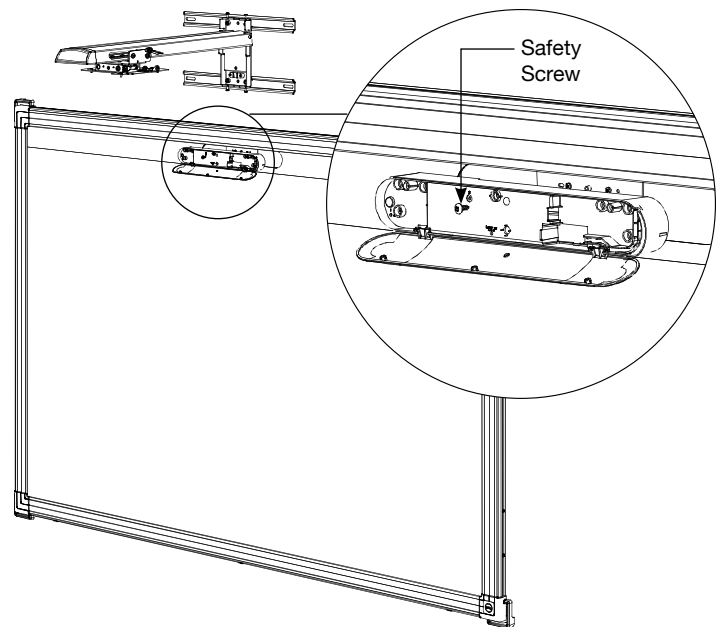

Figure 9
16. Secure IR sensor bar (packaged with the S520 Projector) to screen by sliding it onto the metal bracket. Insert safety screw through IR sensor bar into bracket (Figure 9).